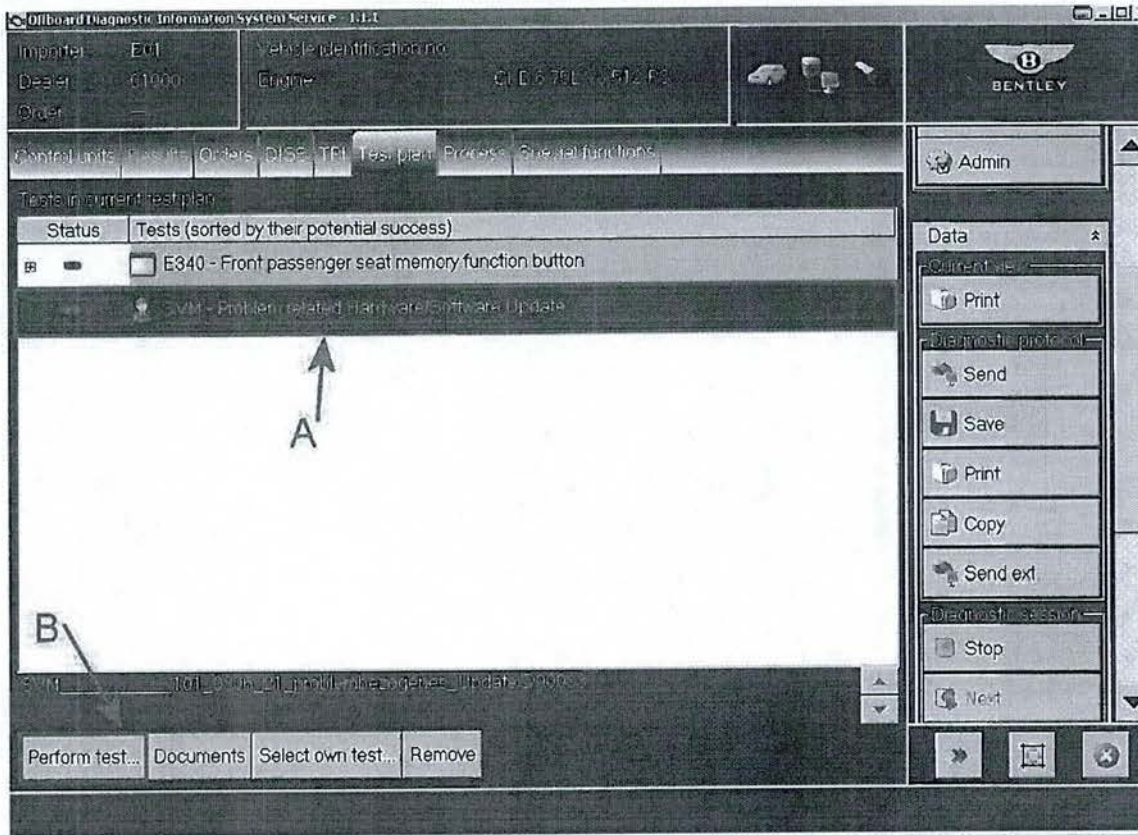

Figure 8
-Referring to Figure 8 ensure the Problem related Hardware/Software update is visible and highlighted as shown at (Point A) and select Perform test (Point B) then follow all on screen prompts